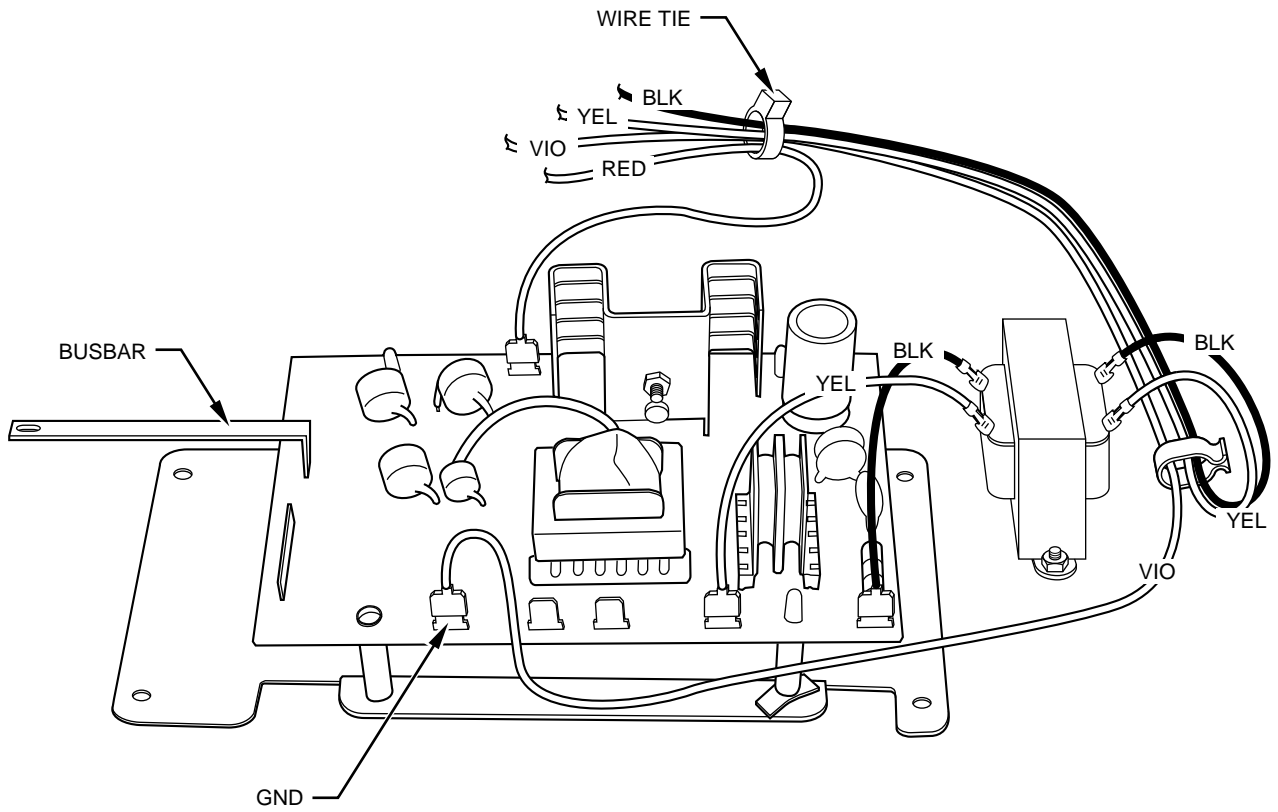
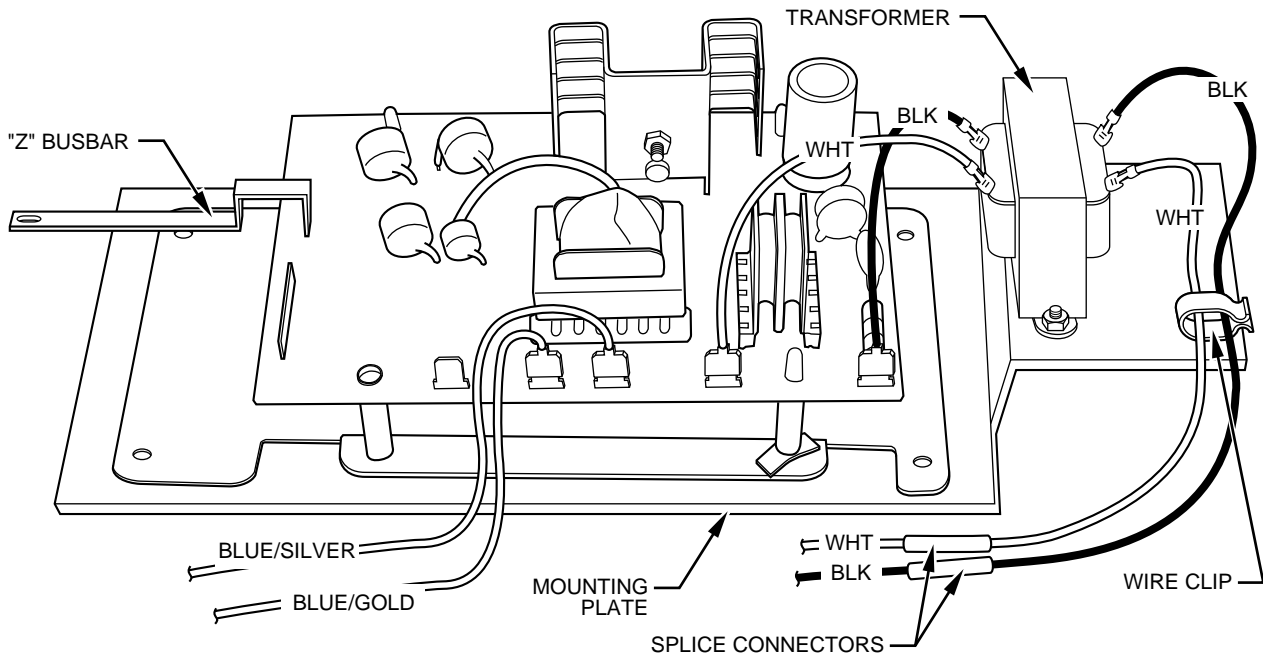

Fig. 2—Models 31SX, 901E, and 901G with 240-60-1 Electrical Supply
Fig. 4—Models 31KAX/901KAX with 240-60-1 Electrical Supply
3. Connect existing wires and bus bar for models 31SX and 901E also G. (See Fig. 2.) Do the same for models 31KAX and 901KAX. (See Fig. 4.)